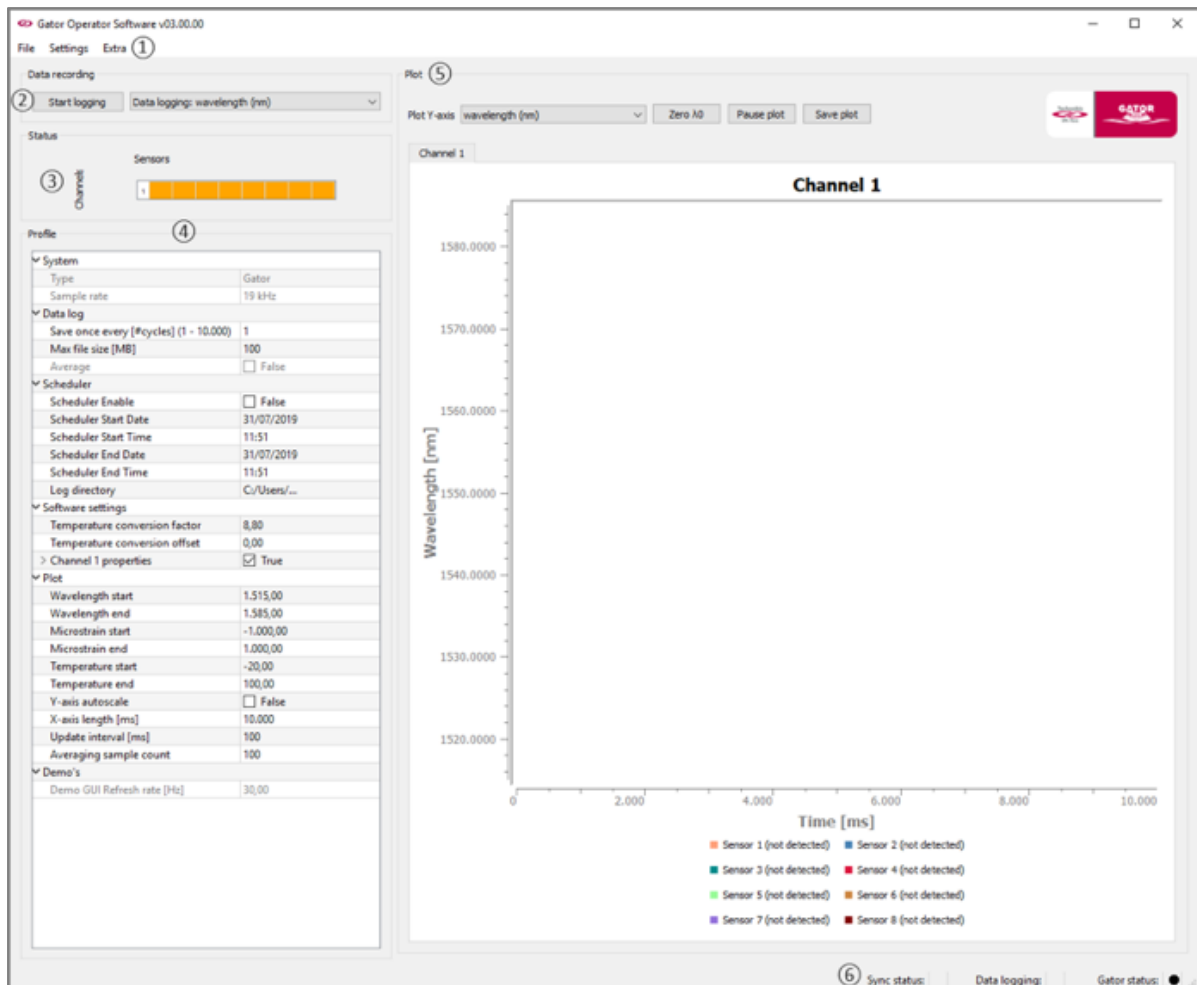

Figure 10-1 The GOS application screen, numbers indicate the different sections of the screen which are described later in this section
Table 10-1 Menu options for Application menu indicated as ① in Figure 10-1.
Table 10-2 Application profile sections (④ in Figure 10-1)
Table 10-3 Data logging settings found in Application profile section (④ in Figure 10-1)
Table 10-4 Scheduler settings found in Application profile section (④ in Figure 10-1)
Table 10-5 Software settings found in Application profile section (④ in Figure 10-1)
Table 10-6 Plot screen settings found in Application profile section (④ in Figure 10-1)